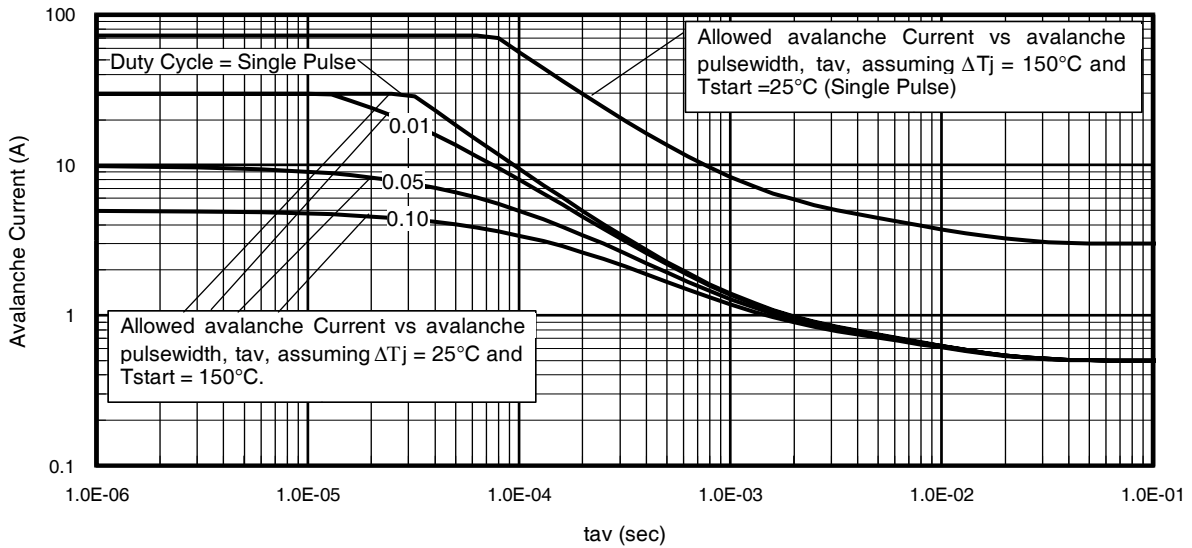

Fig 14. Typical Avalanche Current vs. Pulsewidth
| I _{AR} | Avalanche Current ① | See Fig. 14, 15, 16a, 16b, | A |
Notes on Repetitive Avalanche Curves , Figures 14, 15:
7. ΔT = Allowable rise in junction temperature, not to exceed T_{jmax} (assumed as 25°C in Figure 14, 15).